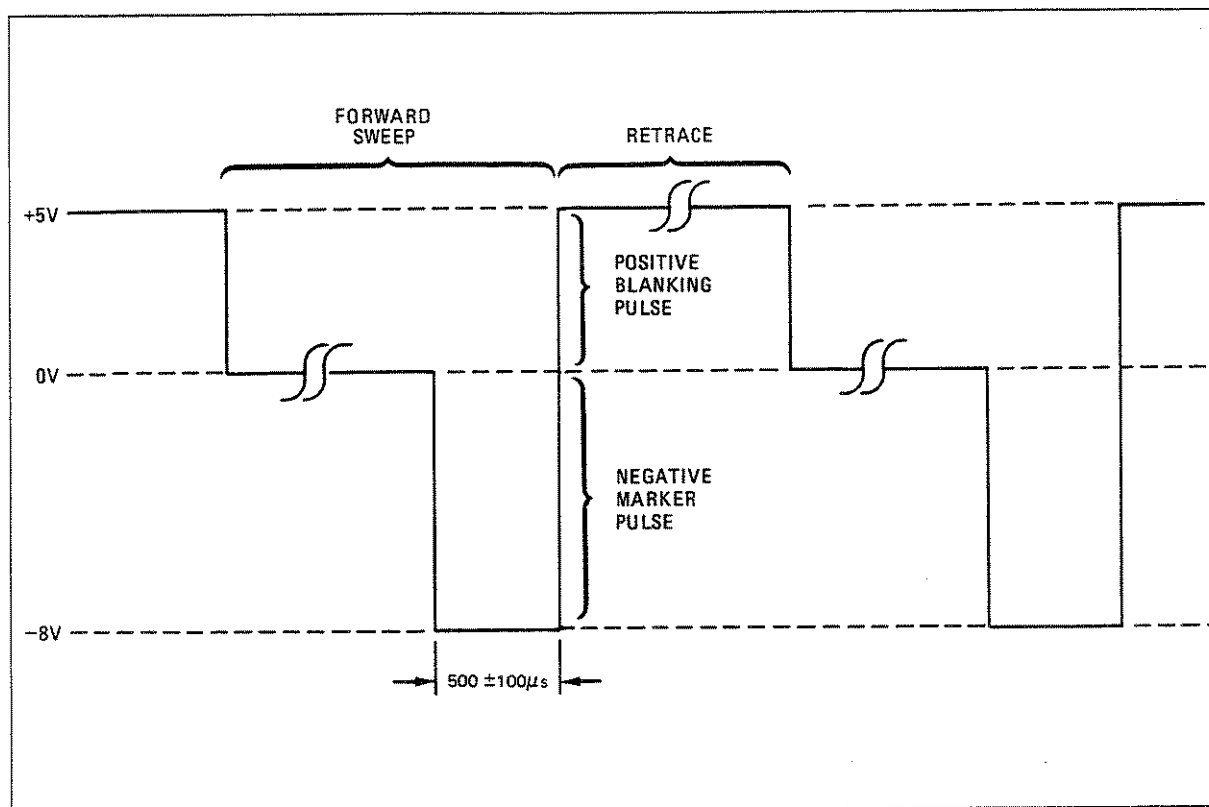

Figure 5-17. Marker DAC Adjustment Waveform
10. Adjust A4R28 so the pulse width is $500 \pm 100 \mu\text{s}$ (5 divisions ± 1 division on oscilloscope). Refer to Figure 5-17.